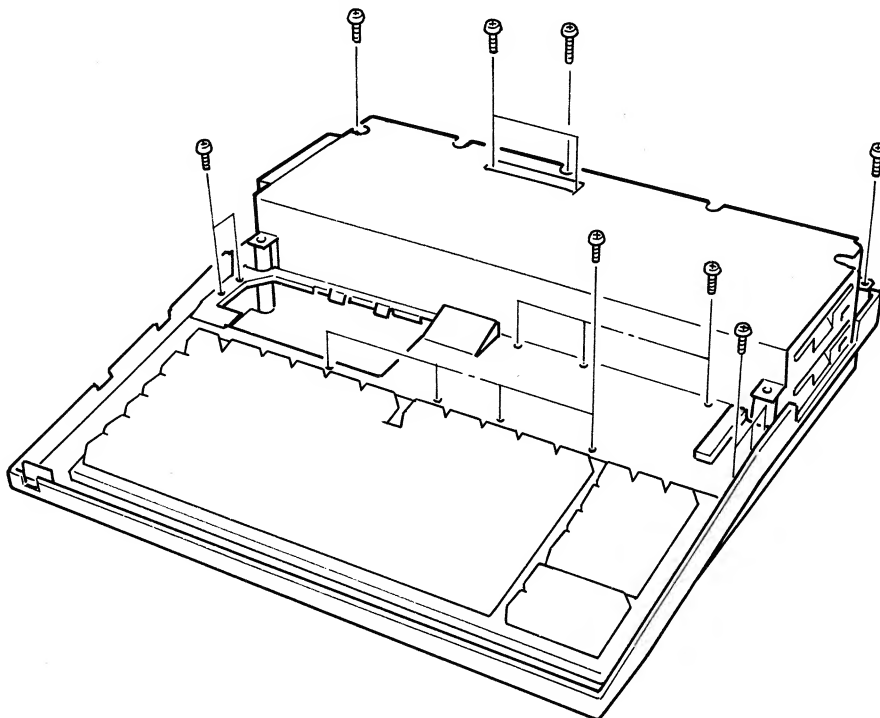

Fig. 2
2. Remove the seventeen screws for the shield cover to be removed. (See Fig. 2.)